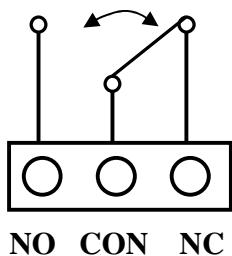

Fig.1
By default, the relay is in a position as in Figure 1 (relay not active and the LED in it is not illuminated), when typing command "reboot: x" the x output(NO) goes into closed, while the x output (NC) goes into open (LED in it is illuminated) for the set time.